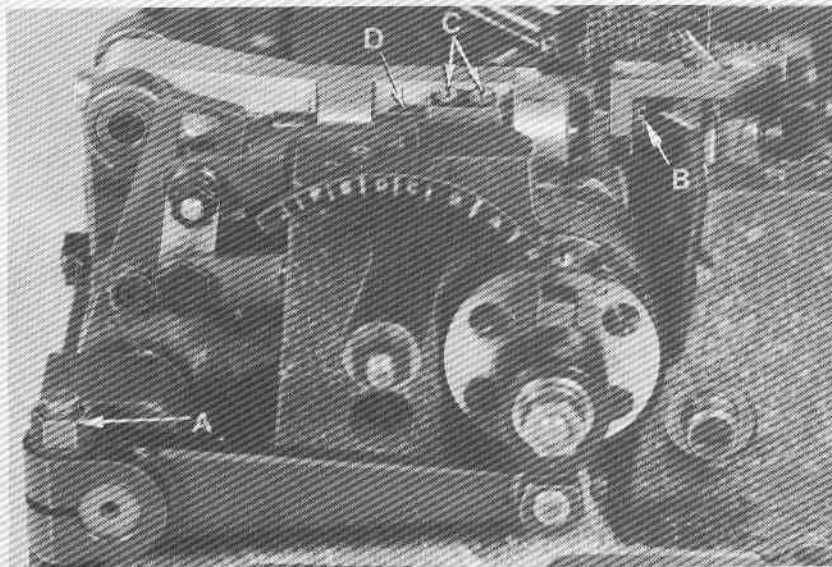

Fig. 10
The main feed dog should have equal clearance on all sides of feed slots in the throat plate at maximum feed travel. To adjust the main feed dog across-the-line-of-feed, loosen screws (C, Fig. 9) and position feed dog as required. Retighten screws (C). To adjust main feed dog in-line-of-feed, loosen nut (A, Fig. 10) and move feed bar as required. Retighten nut.
To raise or lower the differential feed dog, loosen screw (B, Fig. 10) and set the feed dog at the required height. Retighten screw.
Loosen set screws (C, Fig. 10) and move the differential feed bar (D) forward or backward as required. The loosening of set screws (C) will also allow the differential feed bar (D) to be rotated, so the differential feed dog can be aligned parallel with the top surface of the throat plate, across-the-line-of-feed. Tighten screws securely.